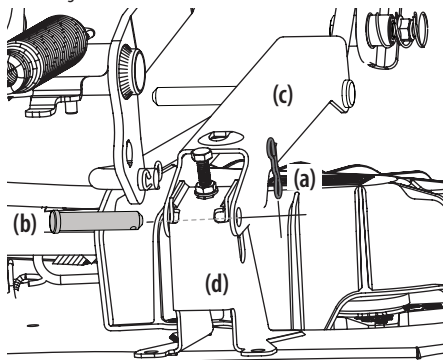

Figure 44
- a. Remove the two bow-tie pins (a) from the clevis pins (b) that secure the lift link brackets (c) to the rear deck lift brackets (d) on the deck. Remove the clevis pins (b). See Figure 44.